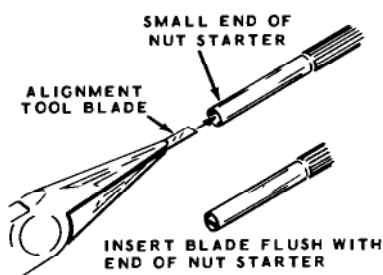

Figure 2
- () Refer to Figure 2 and prepare the coil alignment tool by inserting the alignment tool blade (#205-254) into the small end of the nut starter.